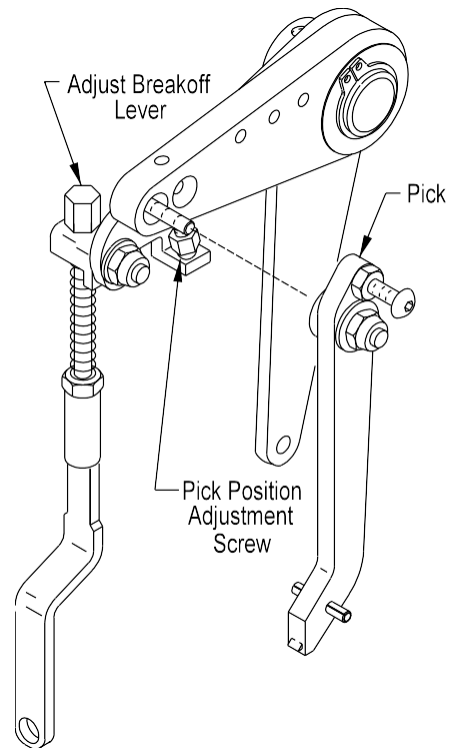

Figure 5.4
1. Locate the pick adjust screw. The adjustment screw is located on the pick operating arm assembly. (Figure 5.4)